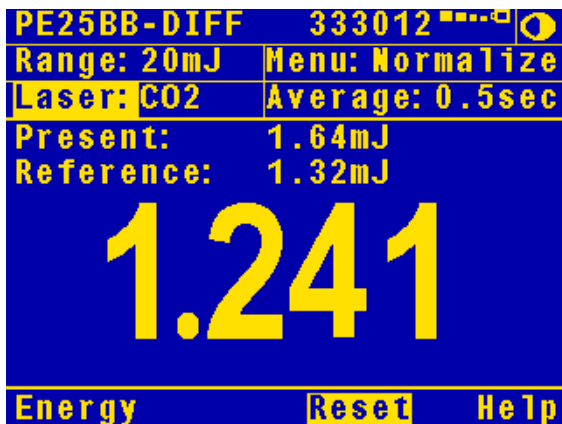

Figure 6.3
2. When ready to normalize, press "Apply". From then on, the energy will be proportional to the normalized energy value. (See Figure 6.3).